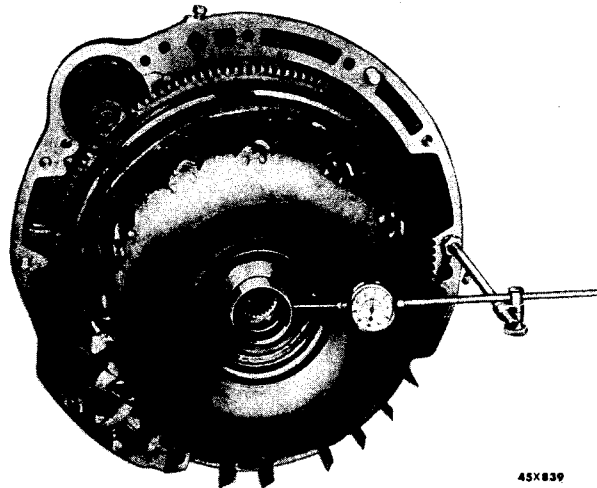

Fig. 15—Checking Converter Hub Runout
- (1) Since the Torque Converter was removed from the crankshaft flange, it will be necessary to take a **RUNOUT**, to determine if the Converter is aligned correctly.
- (2) Install the Converter on the crankshaft flange and attach the lockwashers and stud nuts. Using Tool C-811, tighten the nuts to 55 foot-pounds torque.
- (3) Attach the clamp, swivel and attaching rod of Tool C-430 to the adapter plate, as shown in Figure 15.
- (4) Place the dial indicator, part of Tool C-430 onto the attaching rod. Adjust the plunger of the indicator against the Converter hub. Set the dial indicator to read zero (0).
- (5) Rotate the crankshaft to determine the runout. The maximum allowable is .003 inch. If the runout is greater than .003 inch, the Torque Converter should be removed from the crankshaft flange.
- (6) Check the Converter mounting face and the crankshaft flange for dirt or burrs. Clean the surface again of both, and re-install the Converter. Tighten all the nuts evenly, and take another runout. The Converter should now be within the above limits.